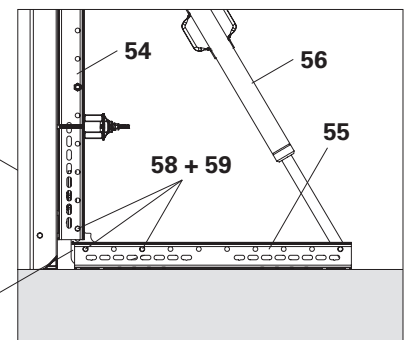

Fig. D1.01b
2. Fix the Corner Connector VARIOKIT SRU (**57**) to the first and third hole of the Steel Waler SRU 122 U120 (**55**) with 2x Fitting Pins Ø21x120 mm (**58**) and Cotter Pin 4/1 ga (**59**). (Fig. D1.01b)
3. Fix Steel Waler SRU 247 U120 (**54**) to the lowest hole of the Corner Connector VARIOKIT SRU (**57**) with Fitting Pin Ø21x120 mm (**58**) and Cotter Pin 4/1 ga (**59**), with the slots facing the element. (Fig. D1.01b)